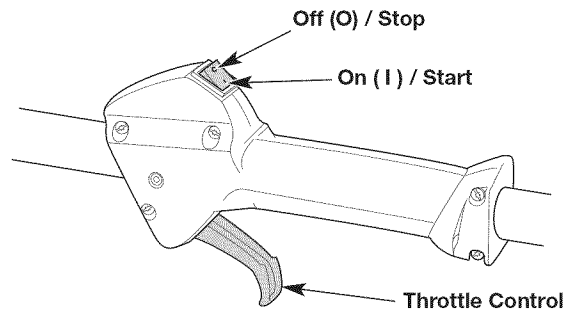
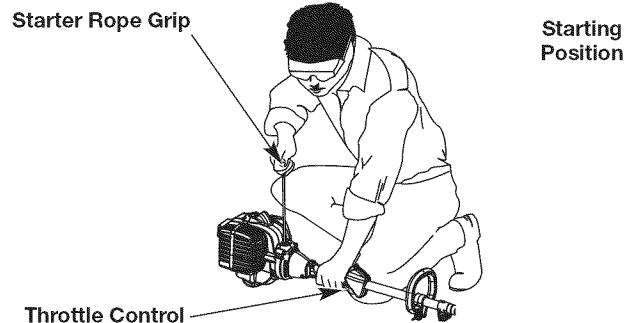

Fig. 9
Fig. 11
WARNING: Avoid accidentally starting the unit. To avoid serious injury, the operator and the unit must be in a stable position when pulling the starter rope (Fig. 11).
NOTE: There is no need to turn the unit on. The On/Off switch is in the ON (I) position at all times (Fig. 9).
5. Crouch in the starting position (Fig. 11).
6. Squeeze the throttle control (Fig. 9) and pull the starter rope with a controlled and steady motion **5 times** (Fig. 11).
2. Press and hold the On/Off switch in the OFF (O) position until the engine comes to a complete stop (Fig. 9).
7. Squeeze and hold the throttle control (Fig. 9). Run the Speed Start™ accessory for 2 seconds.